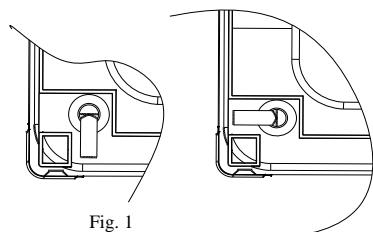

Fig. 1
- The unit must rest on a **stable and solid surface** (type concrete slab) and must be **protected against any risk of accumulation** of condensation water generated during operation. To achieve this, a groove-end tube (Ø18 inside) (fig. 1) installed on the base (two outlet configurations possible: to the rear or to the side). The **5 anti-vibration pads** (Fig. 2) provided must be **installed** under the unit